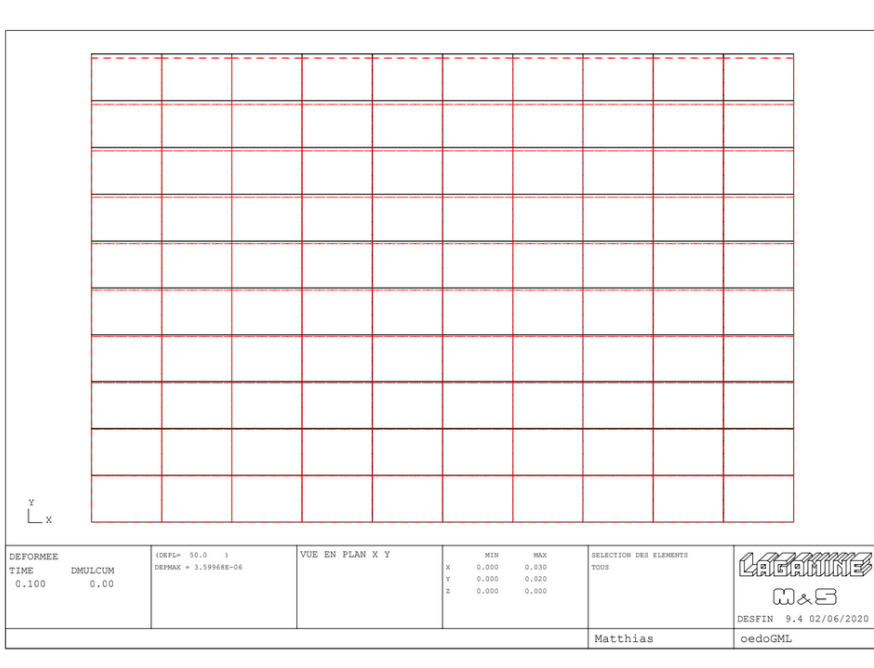

Figure 4.54 Initial and deformed mesh in post-script format.
- Open the .PS file with your favorite postscript software, you obtain something similar to Figure 4.54.